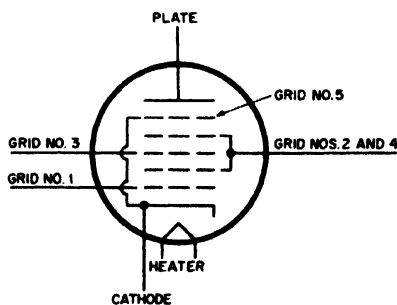

Fig. 27-16. Diagram showing the arrangement of electrodes in the pentagrid converter tube.
**The Pentagrid Converter.** Let us look at the type 6BE6 tube, which has a cathode (and separate heater), a plate, and five grids as shown in Figure 27-16. The grids are numbered from 1 to 5, counting from the cathode toward the plate.